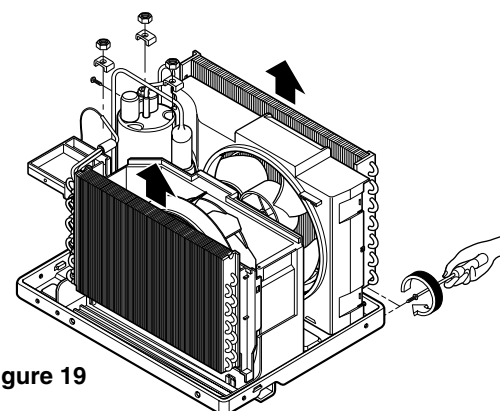

Figure 19
6. Remove 2 screws that secure the base pan to condenser. (See Figure 19)
9. Lift the compressor upward with the evaporator and condenser. (See Figure 19)